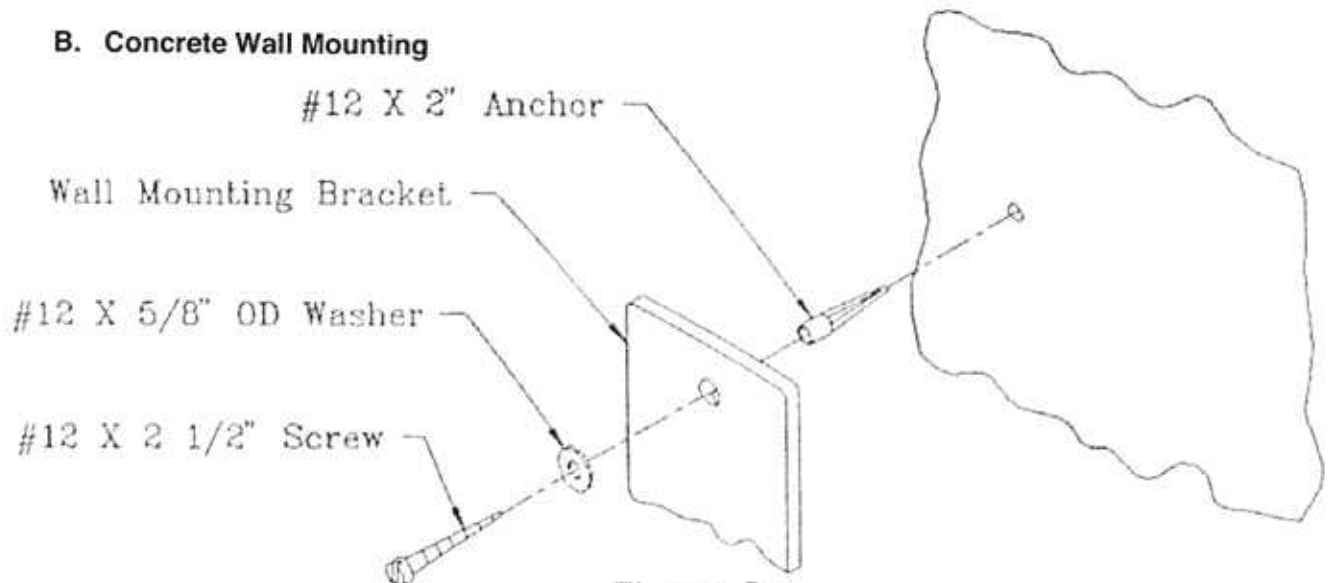

Figure 5
1. Drill hole in concrete wall as instructed by anchor manufacturer. Drive in anchor. Insert screw through washer then wall bracket. Thread screw into anchor until tight. One screw required for each mounting hole (see fig 5).